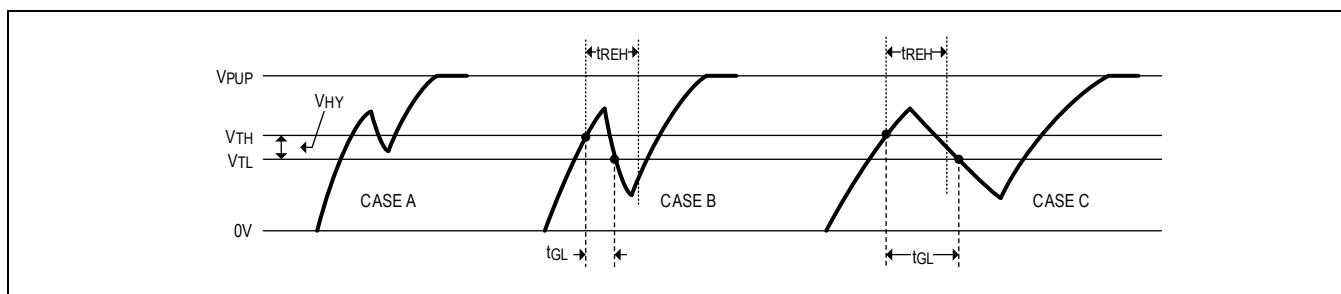

Figure 8. Noise Suppression Scheme
- On the low-to-high transition, if the line rises above  $V_{TH}$  but does not go below  $V_{TL}$ , the glitch is filtered (Figure 8, Case A).
- The rising edge hold-off delay (standard speed, nominally 1 $\mu$ s),  $t_{REH}$ , filters glitches that go below  $V_{TL}$  before  $t_{REH}$  expires (Figure 8, Case B). Effectively, the device does not see the initial rise, and the  $t_{REH}$  delay resets when the line goes below  $V_{TL}$ .
- If the line goes below  $V_{TL}$  after  $t_{REH}$  expires, the glitch is not filtered and is taken as the beginning of a new time slot (Figure 8, Case C).